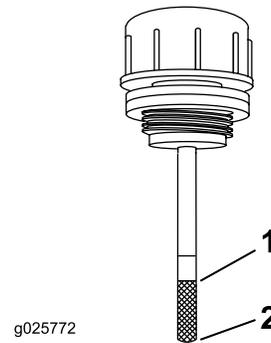

Figure 62
5. Clean the area around the dipstick of the hydraulic-system reservoir (Figure 62).
6. Remove the dipstick from the hydraulic reservoir (Figure 62).
8. Remove the dipstick and look at the end (Figure 62). If the fluid level is at the add mark, slowly pour only enough fluid into the hydraulic reservoir to raise the level to the full line.